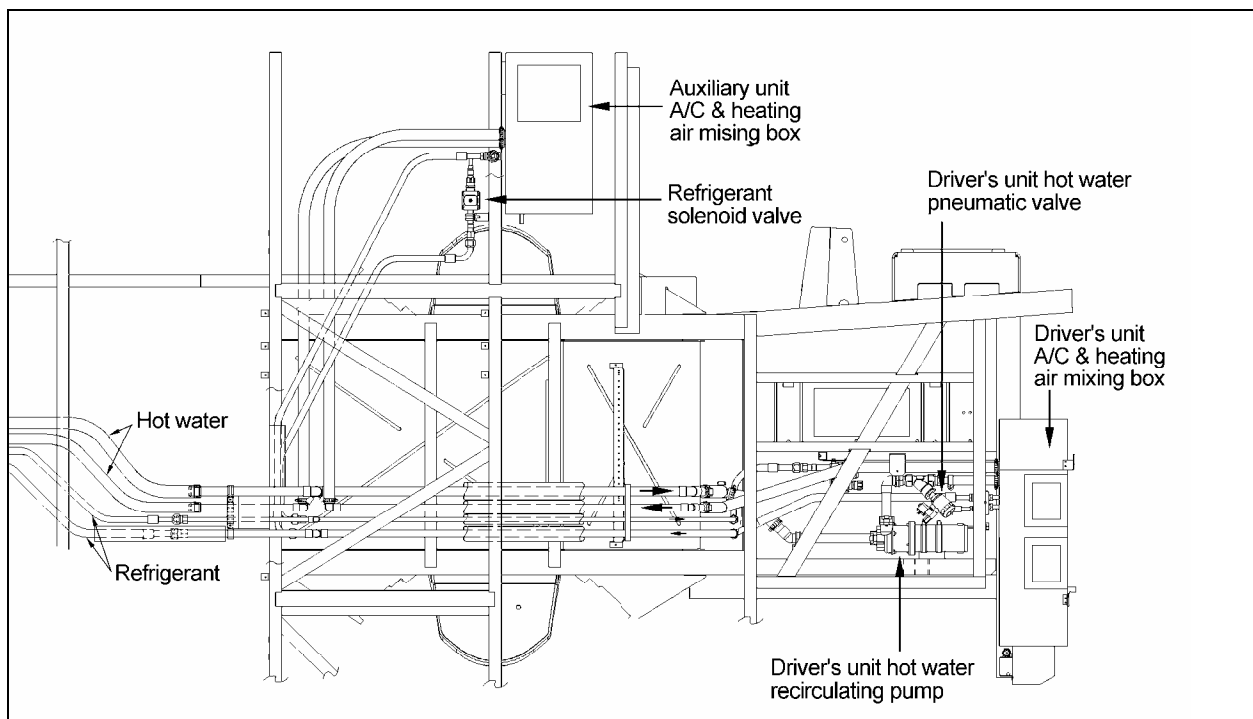

FIGURE 39: SMALL HVAC SYSTEM - DRIVER'S AND AUXILIARY UNIT
2. Locate the normally open hot water pneumatic valve on the ceiling of the spare wheel compartment (figure 39), disconnect its wiring connector, and then connect a 24-volt external power source, using jumper cables, to close valve.